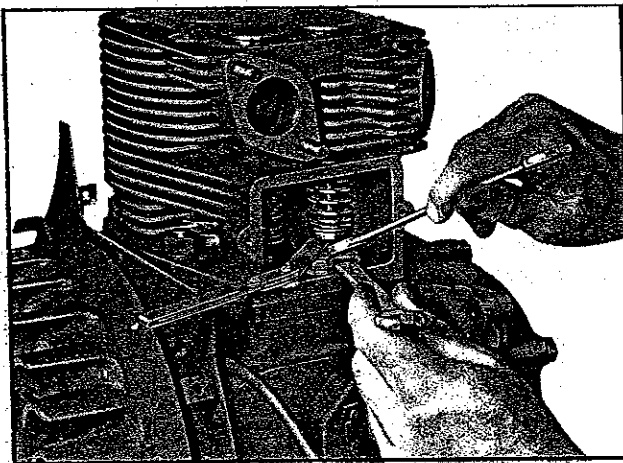

Fig. 42 293060C
#### TAPPET ADJUSTMENT (Fig. 42)
**Tappet adjustment** can be made immediately after assembling the valves, springs and locks, see Fig. 42. With the tappets in their lowest position and the engine cold, the clearance should be: